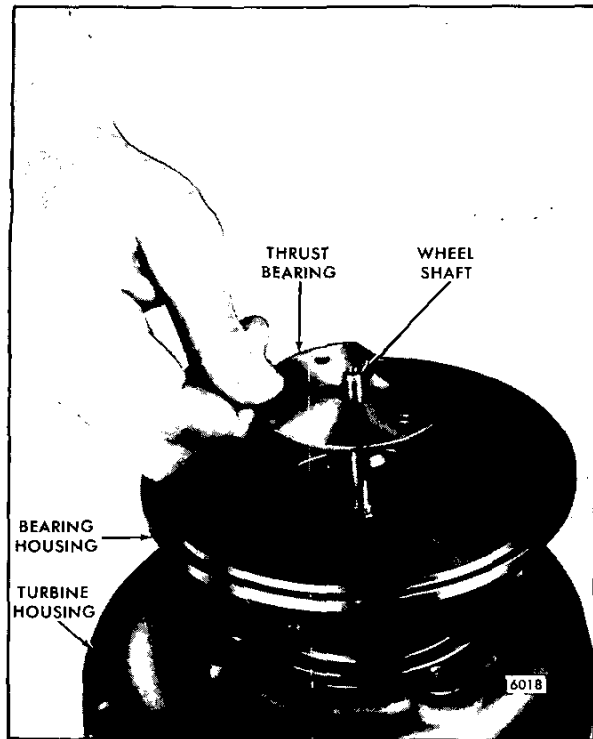

Fig. 15 - Install Thrust Bearing in Bearing Housing
7. Lubricate the thrust faces on both side of the thrust bearing and install the bronze side of the bearing over the shaft and groove pins, engaging the pins to the holes in the thrust bearing (Fig. 15).